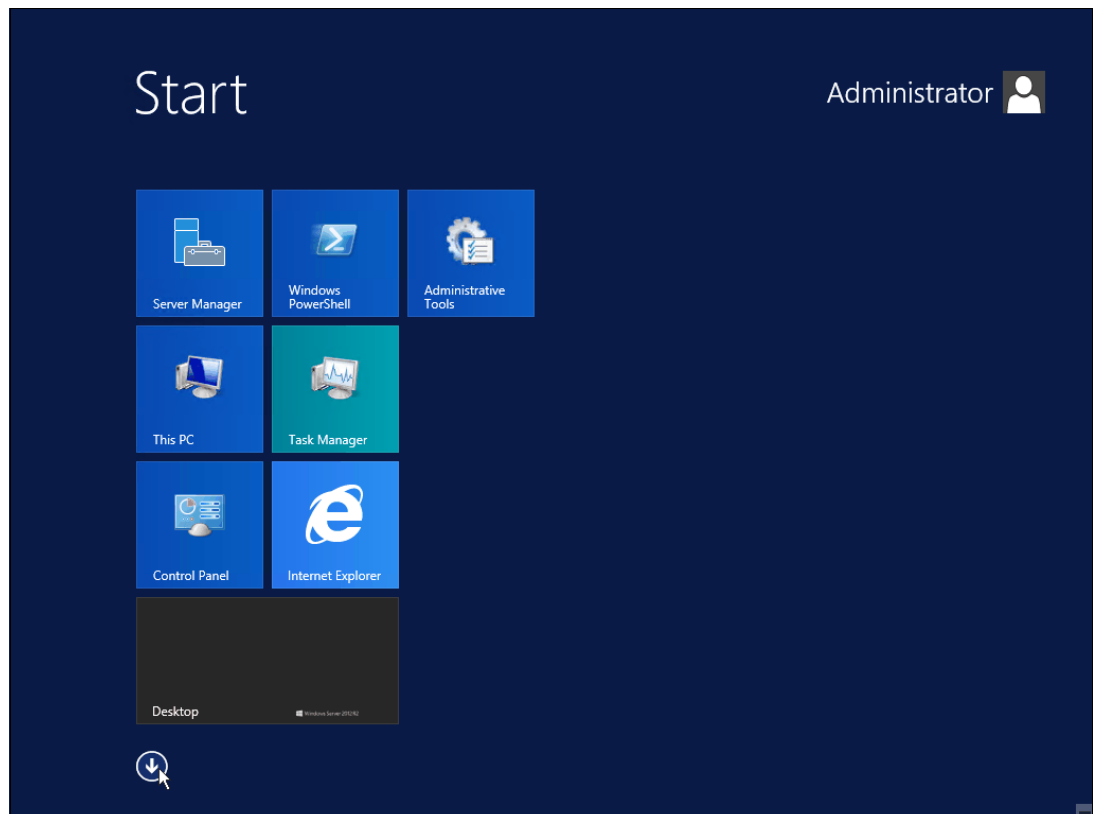

Figure 5-5 Expand view to see all programs that are installed
2. Expand the view by clicking the down arrow that is shown in Figure 5-5.